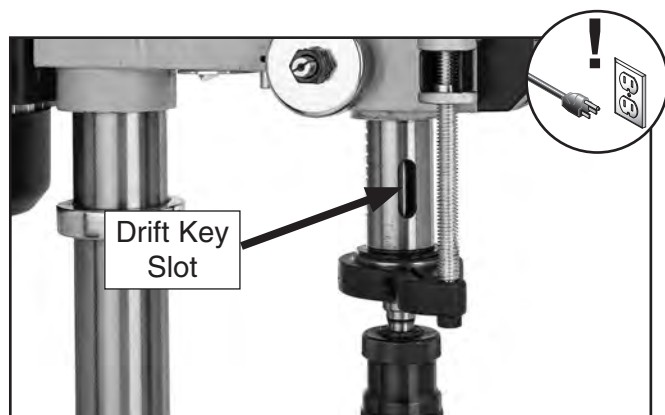

Figure 24. Drift key slot exposed.
2. Rotate downfeed handles until drift key slot is exposed in side of quill (see **Figure 24**).